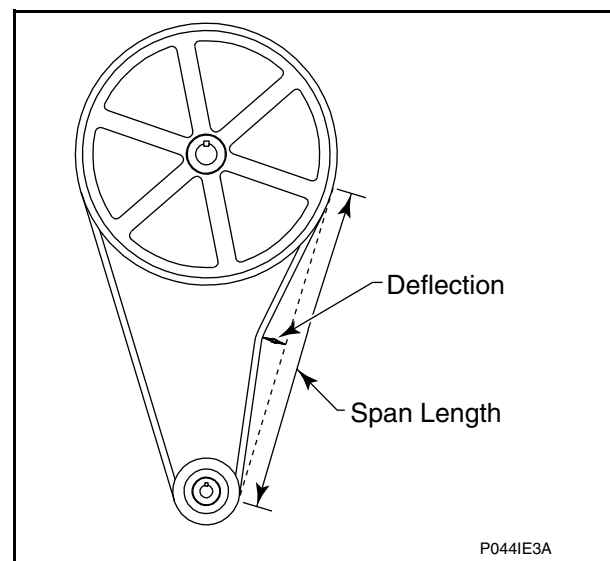

Figure 19
- **Deflection.** See Figure 19. Loosen motor mounting bolts and slide motor along motor plate to change belt span length. Belt tension measurements should be taken as close to the center of the belt span as possible. For every inch of span length, the belt should deflect 1/64 inch (0.40 mm). Thus, a belt with span length of 50 inches should deflect 50/64 inch (19.84 mm). An initial (run-in) force of 5.25 pounds should be used to set the belt tension. An operating (normal) force of 3.5 pounds should be used after the washer-extractor has been operated for a few hours.